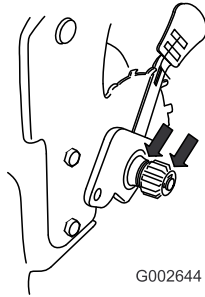

Figure 40
2. Apply engine oil to the inner and outer sides of the gear as shown in Figure 40.